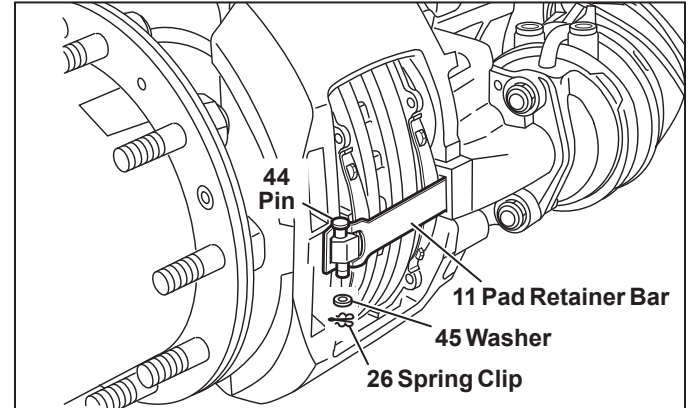

Figure 34 – Pad Retainer Bar Removal
5.2.4 See Figure 34. Remove and discard the pin retention clip (26) and washer (5).
- 5.2.21 Push the new pad retainer bar (11) into the groove of the caliper. Press down on the pad retainer bar, and insert the pad retainer pin (44), with the pin pointing downwards, where possible. Install the supplied washer (45) and then the spring clip (26). (See Figure 34).